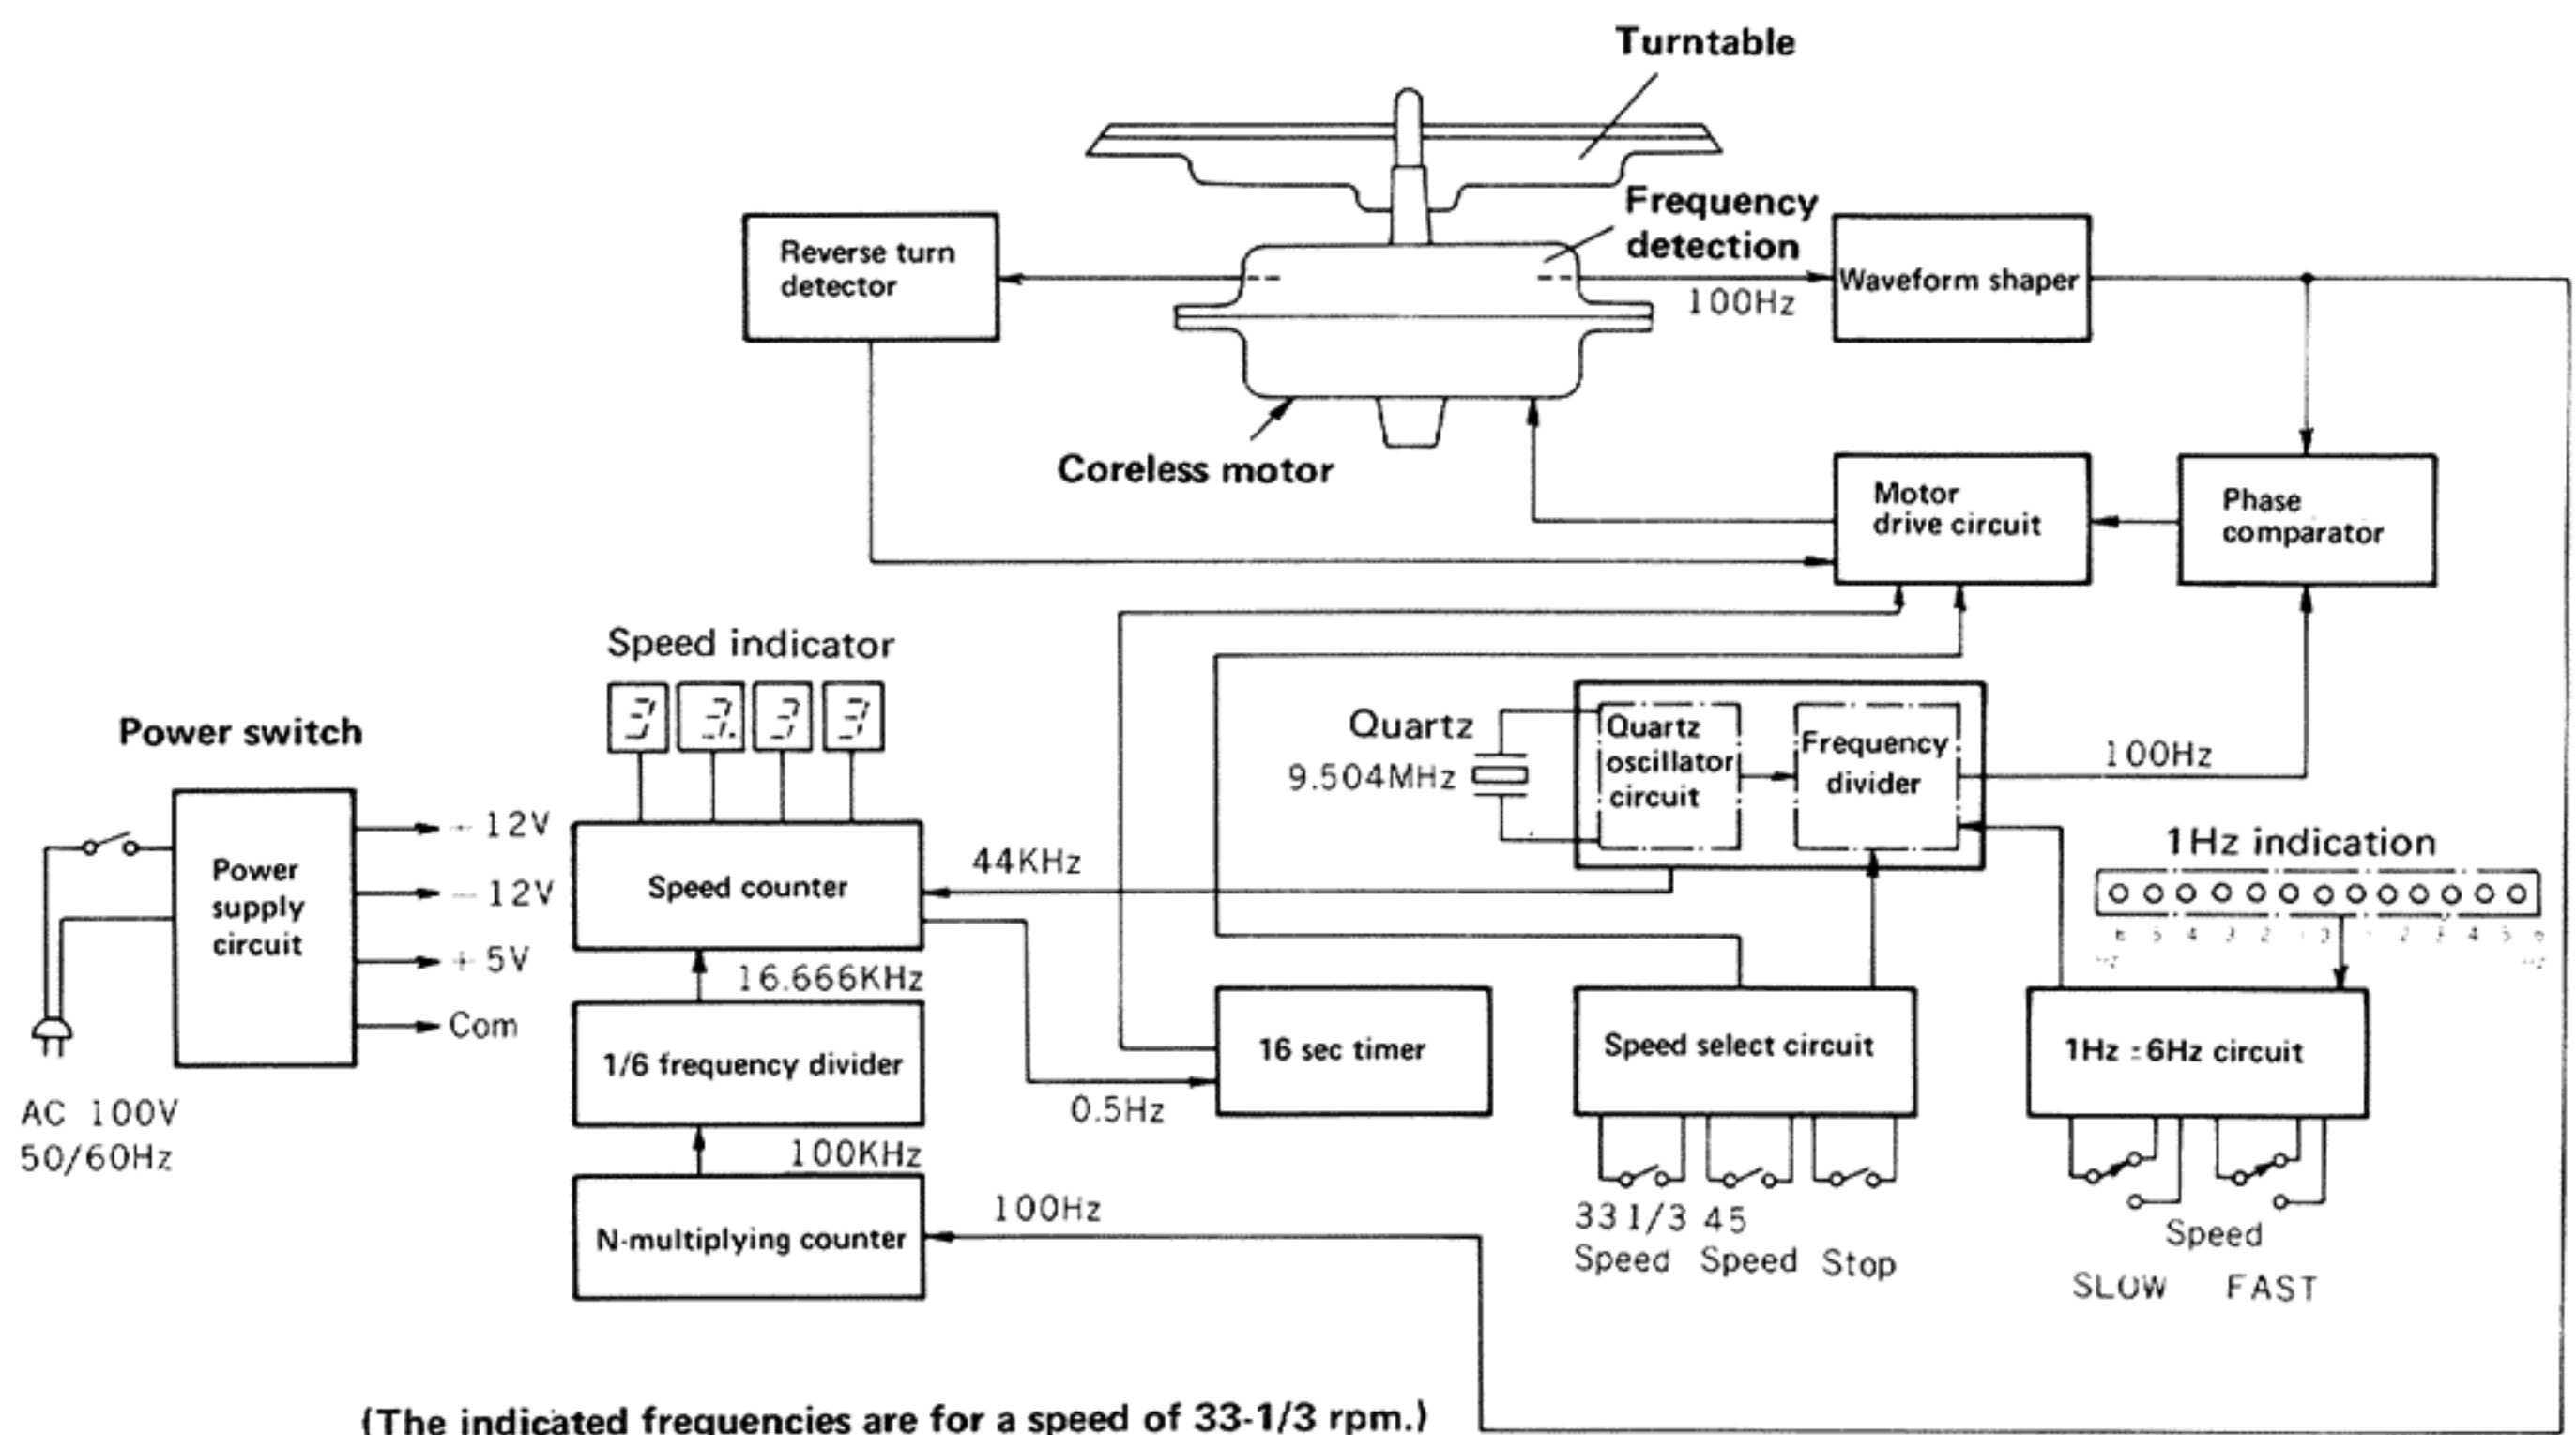

Fig. 2
1. C. MOS LSIT SC3042 consists of the elements shown in the block diagram of Figure 2.